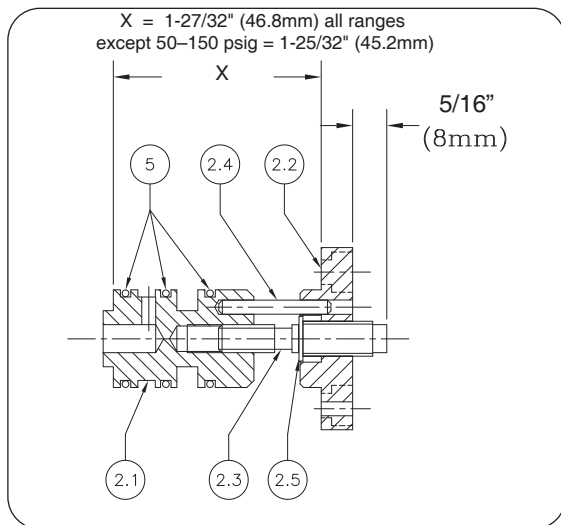

Figure 10
8. Take all the metal parts except the gauge (11) and nameplate (10) and clean in suitable solvent. Clean and air blow all drilled air passages.
9. Install pressure gauge (11) into the pneumatic housing (1) using suitable thread sealant.
10. Install new O-rings (5) on sensor sub-assembly (2). Check the two dimensions given in Figure 10 of the sensor sub-assembly as "final settings".
A. Improper sensor sub-assembly setting.	A. Remove sensor sub-assembly. Check dimension to those indicated in Figure 10. If dimension is correct, and high setting cannot be reached, decrease dim. "X" by rotating sensor end plate 1/2 revolution CW; reverse for lower setting.